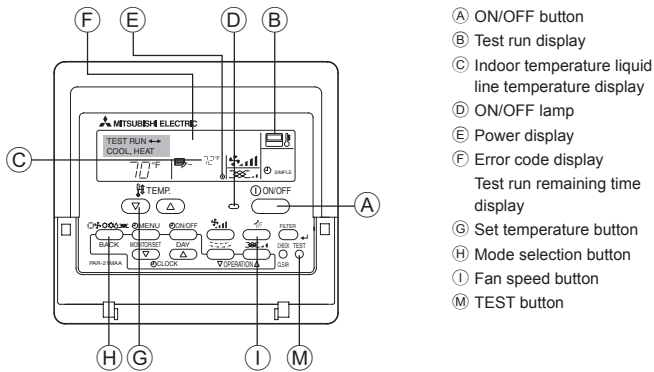

Fig. 7-1
7.2.1. Using wired remote controller (Fig. 7-1)
- ① Turn on the power at least 12 hours before the test run.
- ② Press the [TEST] button twice. ⇒ "TEST RUN" liquid crystal display
- ③ Press the [Mode selection] button. ⇒ Make sure that wind is blown out.
- ④ Press the [Mode selection] button and switch to the cooling (or heating) mode. ⇒ Make sure that cold (or warm) wind is blown out.
- ⑤ Press the [Fan speed] button. ⇒ Make sure that the wind speed is switched.
- ⑥ Check operation of the outdoor unit fan.
- ⑦ Release test run by pressing the [ON/OFF] button. ⇒ Stop
- ⑧ Register a telephone number.